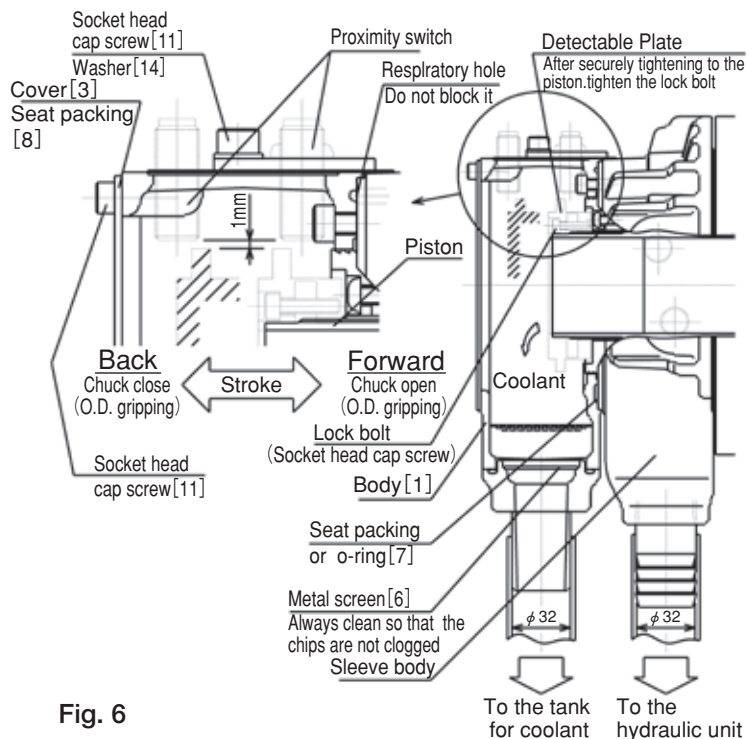
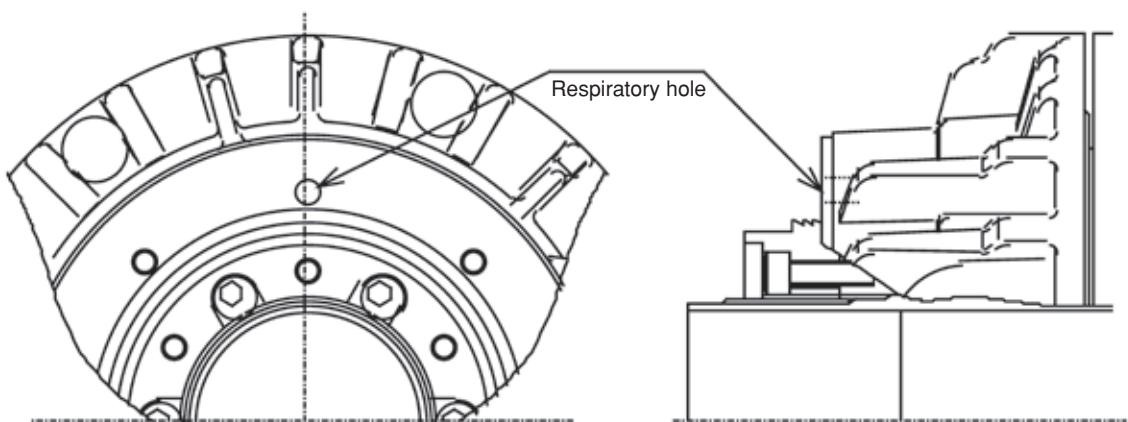

Fig. 6
Fig. 7
- To easily collect the coolant flowing into the coolant collector, provide appropriate slope to the piping, so that the coolant does not stagnate inside the hose. To check the flow, use a transparent vinyl hose. (Inside diameter  $\phi$  32) (Fig. 6)
Read following instruction when you adjust the proximity switch. (Fig.6)
- In case you use a coolant collector manufactured by the company other than Kitagawa Iron Works, do not block the respiratory hole. (Fig. 6 , Fig. 7)
Always clean the punching metal so that the coolant does not stagnate inside the coolant collector. Be sure the chips are not clogged. (Fig. 6)